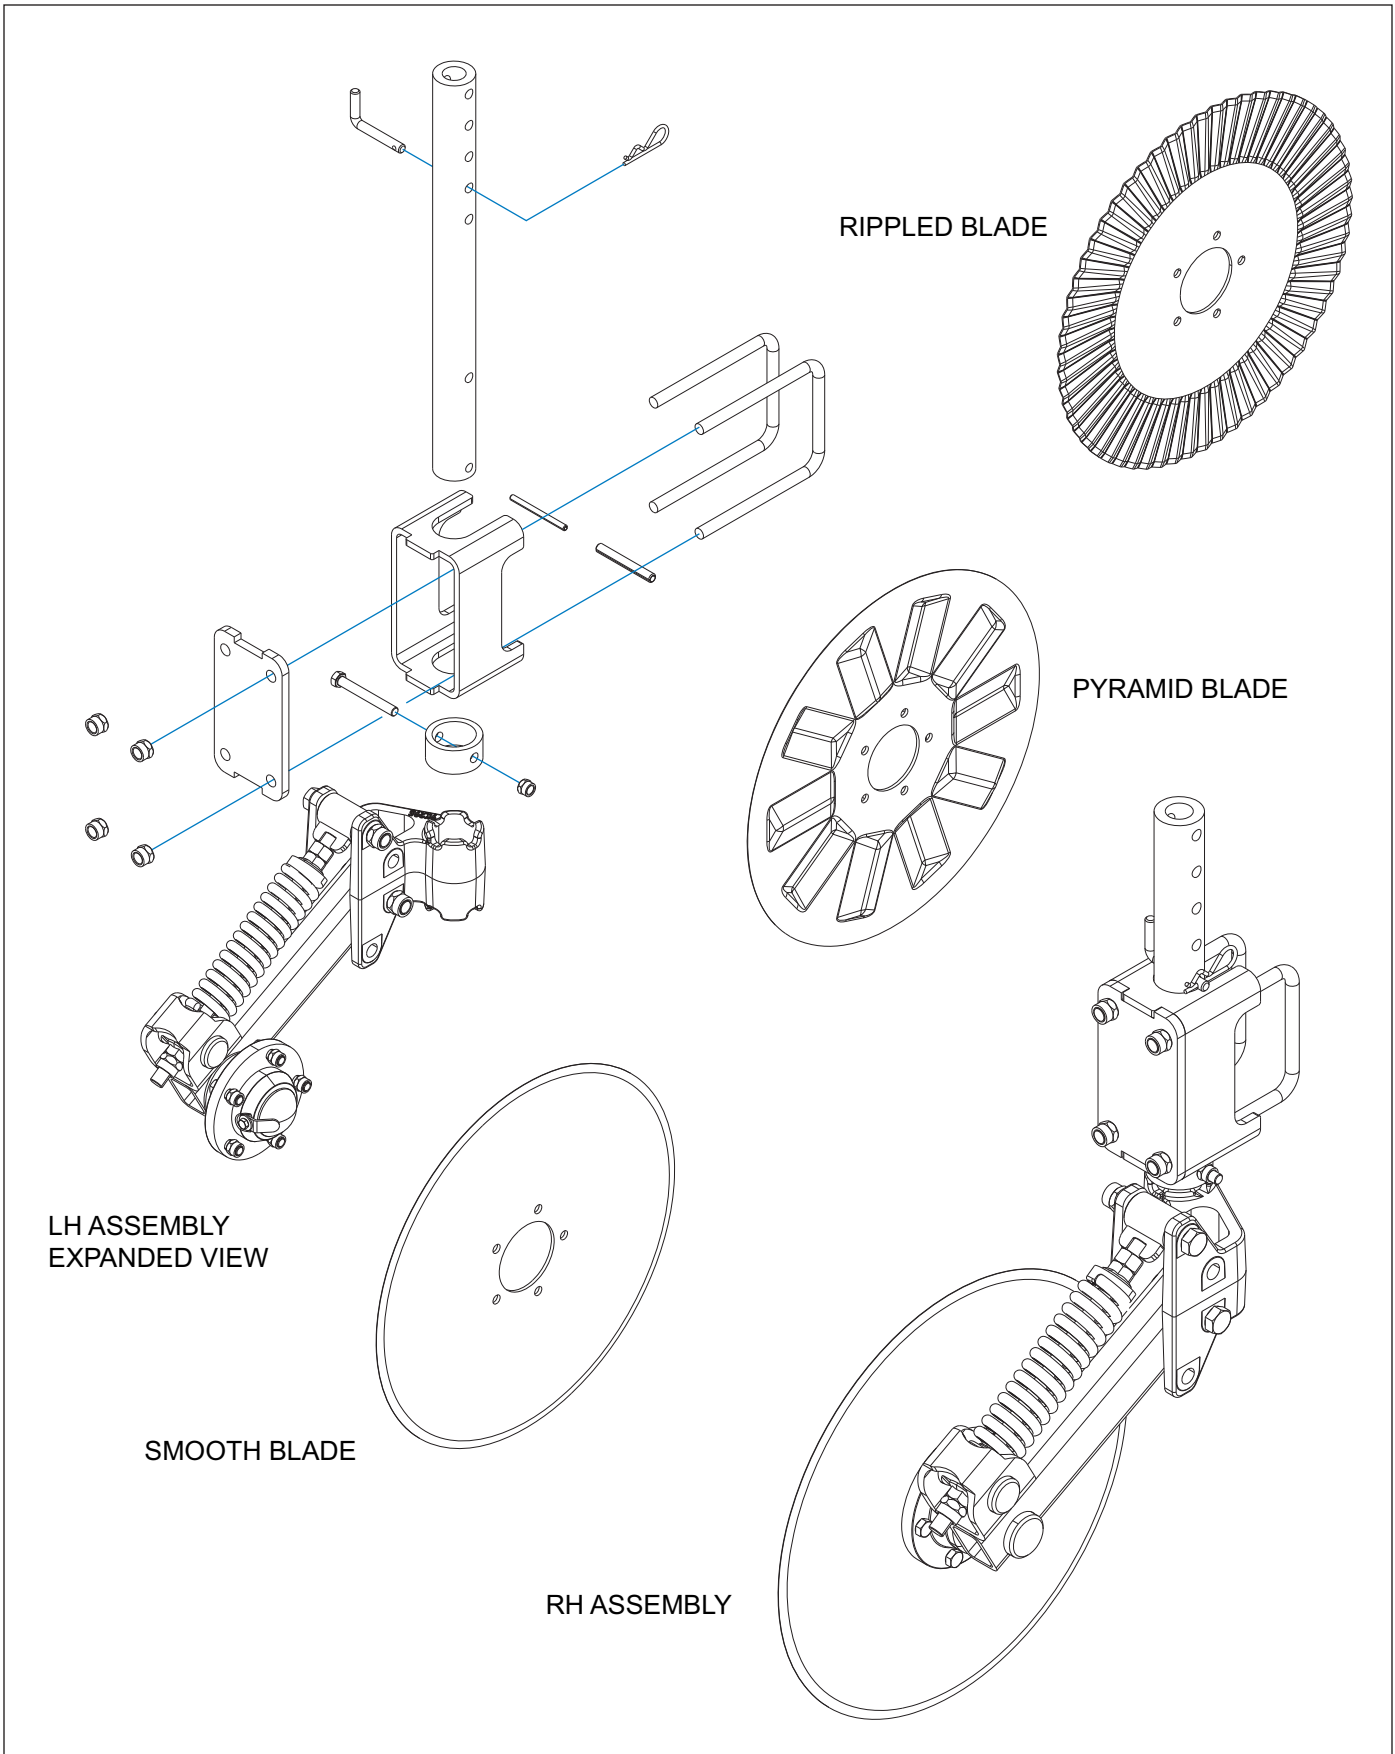

Figure 3-8: Coulters Assembly
1. Assemble couler adjustment tube to couler assembly using roll pins 1/2 x 4 and 5/16 x 4. Assemble the couler stop to the couler adjustment tube using 1/2 x 4 screw and nut. (See Figure 3-8)